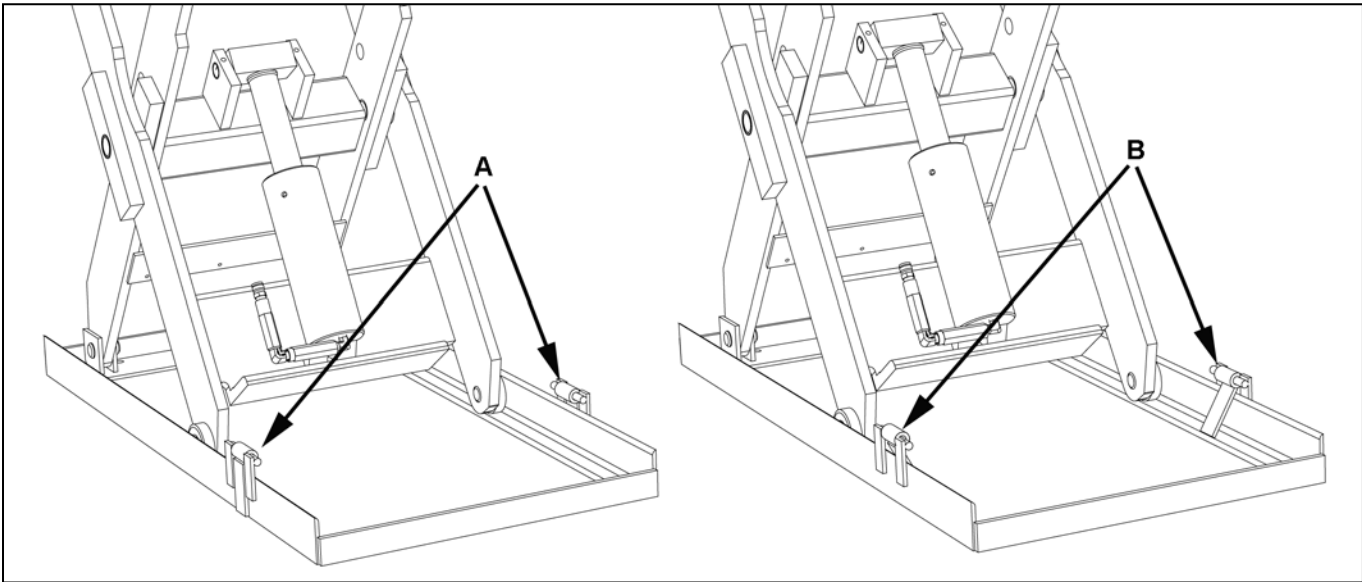

Figure 6.1
3. The lift will be provided with two (2) maintenance devices stored on the outside of the base frame. The devices must be securely placed inside the base frame (B) and thus in the roller path of the lift **(See Figure 6.1 or 6.2)**.